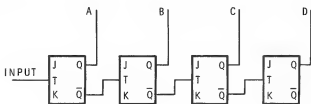

Figure 5-64
22. The sequential circuit of Figure 5-64 is a:
23. If the counter of Figure 5-64 is storing the number DCBA = 1000, what number will it be storing after 10 input pulses?
24. If a 100 kHz signal is applied to the input of the counter in Figure 5-64, the output at D will be:
22. D — The circuit of Figure 5-64 is a 4-bit binary down counter.
24. A — The counter of Figure 5-64 will divide the input signal by 16. Therefore, the output at D will be 6.25 kHz.